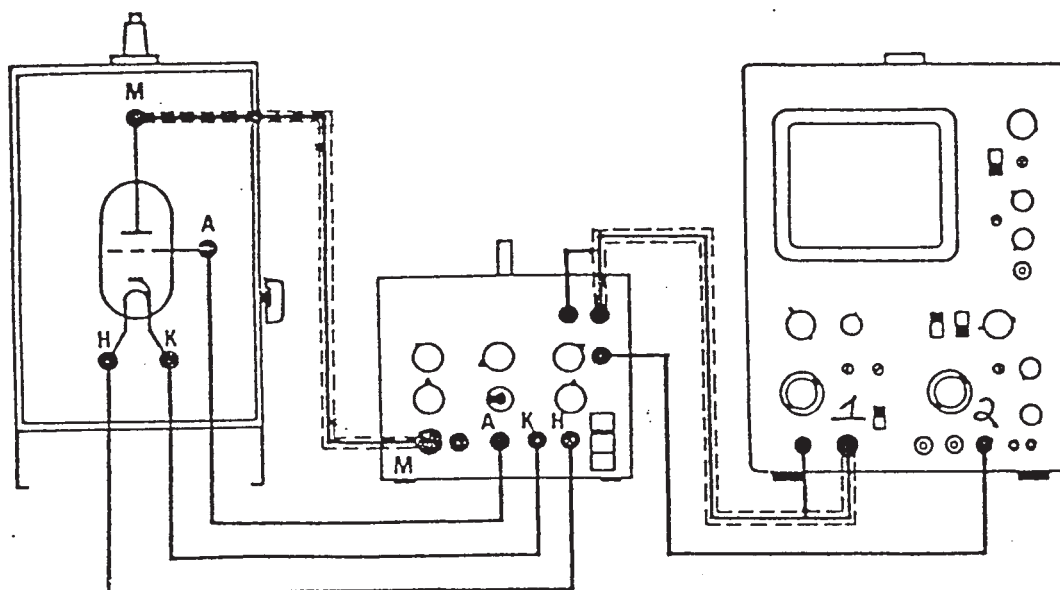

Figure 1 Connection of Control Unit and Oscilloscope
Make all connections *with the power turned off*. Connect the control unit to the measuring oscilloscope as shown in Figure 1.
4. Connect the oscilloscope according to Figure 1. From (**V+**) to Channel 1 (Y-deflection). From $U_b/10$ to Channel 2 (X-deflection). From ground (**V-**) to ground of Channel 1.